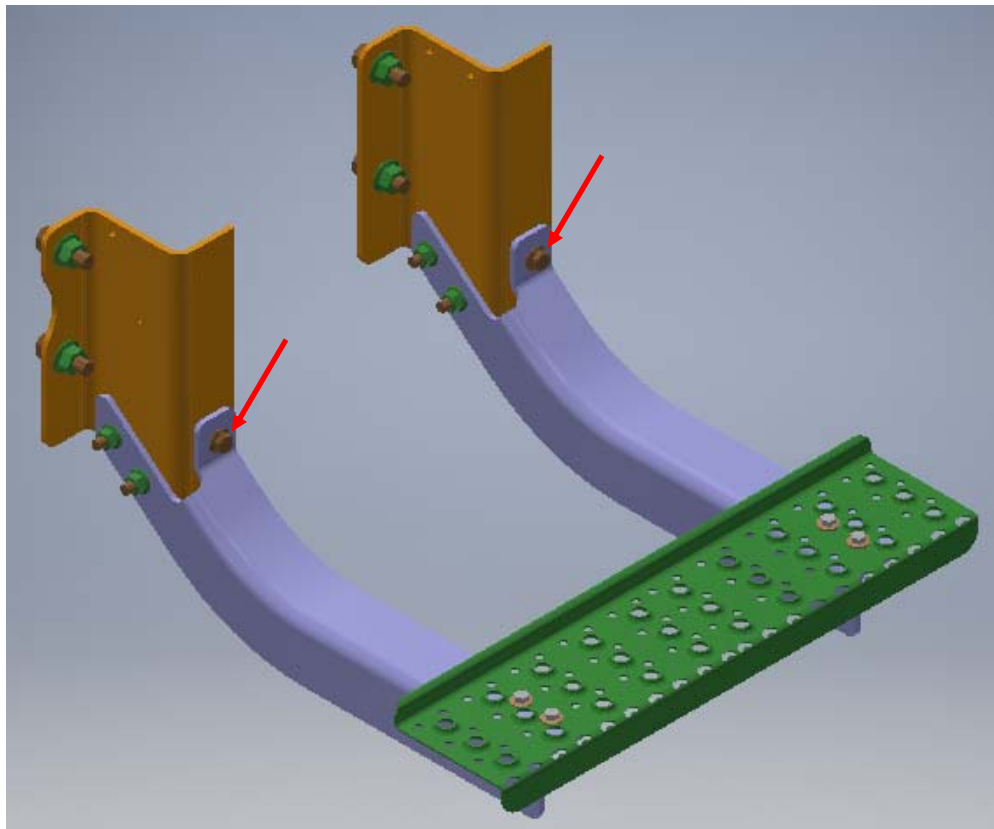

Figure 1: Step Bolts To Be Removed/Re-Used
1. Working at the rear step on the Driver's Side, locate the two 12mm bolts and remove. We will be re-using these bolts. (Figure 1) (Photo 2)